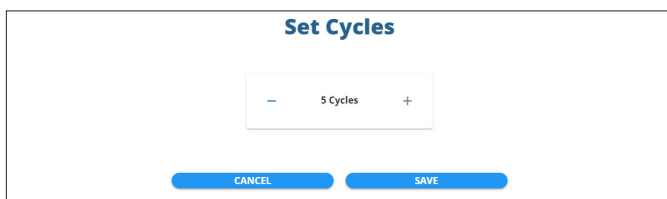

Fig. 99—Use the buttons to set the number of scans to be performed.
- Press the *Set Cycles* button to set the number of scans to be performed according to the current sequence. A popup displays (Fig. 99). Use the + and – buttons to increment or decrement the number of scans. Then, press the *OK* button to save the changes.